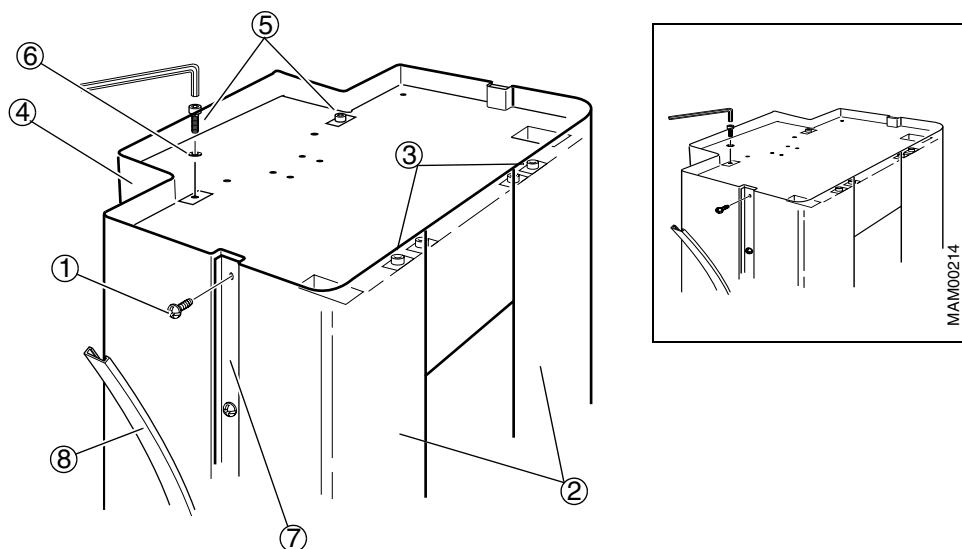

Fig. 1 Mounting the stand covers on a stand with single rear cover.
1. Make sure that clips are positioned over the holes where the screws (No. 1/Fig. 1) are to be fastened. These clips enable the screws to fasten the covers.
2. Fit left and right front covers (No. 2/Fig. 1) to the stand and fasten with screws and contact washers (No. 3/Fig. 1).
3. Fit the rear cover (No. 4/Fig. 1) to the stand and fasten it with screws (No. 5/Fig. 1) and contact washers (No. 6/Fig. 1).
4. Fit the inner plastic strip (No. 7/Fig. 1) to the front and side covers and fasten with screws (No. 1/Fig. 1), eight on either side.
5. Press on the outer plastic strip (No. 8/Fig. 1).